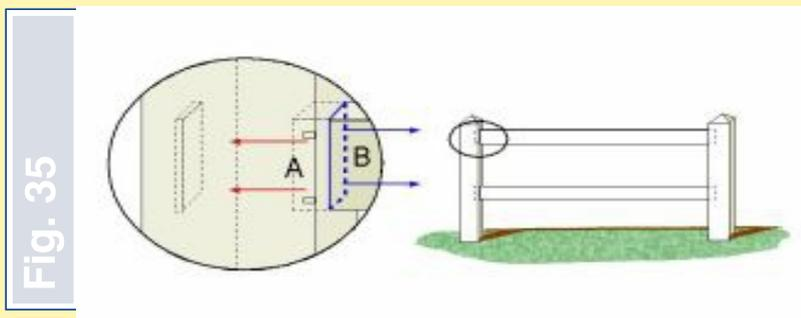

Fig. 35
- next put the other end of a crosspiece in a corresponding hole in the other post, according to Fig. 35, first moving the element in the direction shown as "B" in Fig. 35 and then in the "A" direction until you hear locking of snap fasteners fixed on the section. Do the same with the lower element of the section